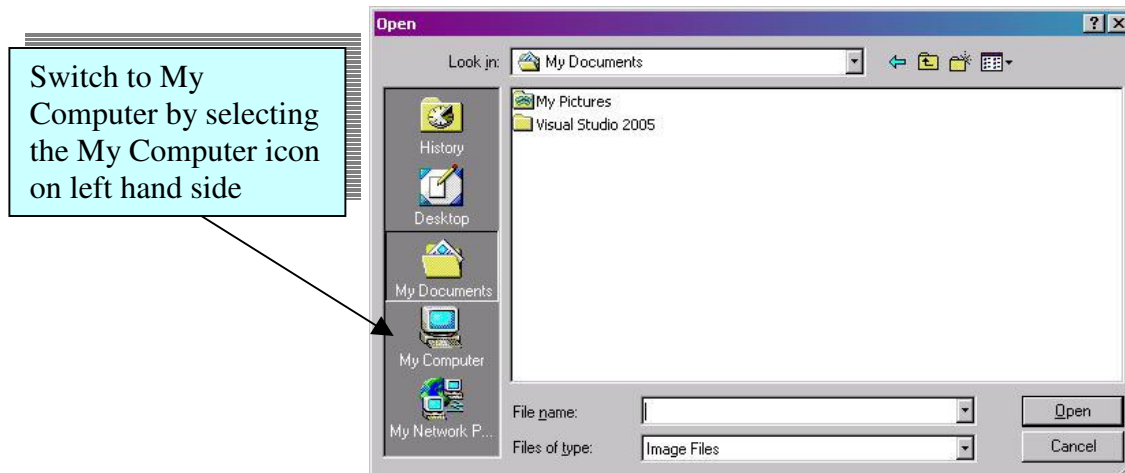

Figure 3.6.1.3: Selecting My Computer
- 3. Browse to where the clip art is located (see Figure 3.6.1.4 – Figure 3.6.1.9).